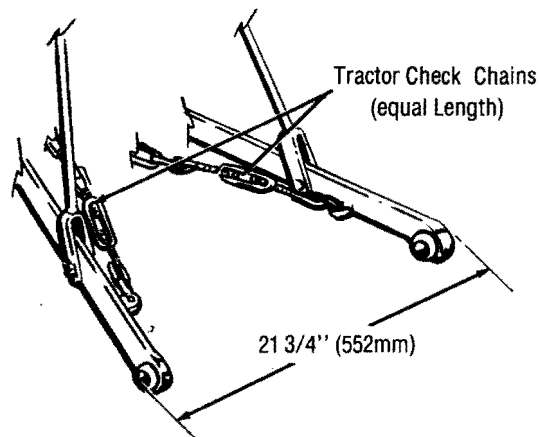

Figure 3 Tractor Check Chains
6. Adjust both tractor check chains to equal lengths while obtaining a link ball spread of 21 3/4" (552mm), measured from the outside edges of the balls (see Fig. 3). This assures that the mower will be centered behind the tractor.